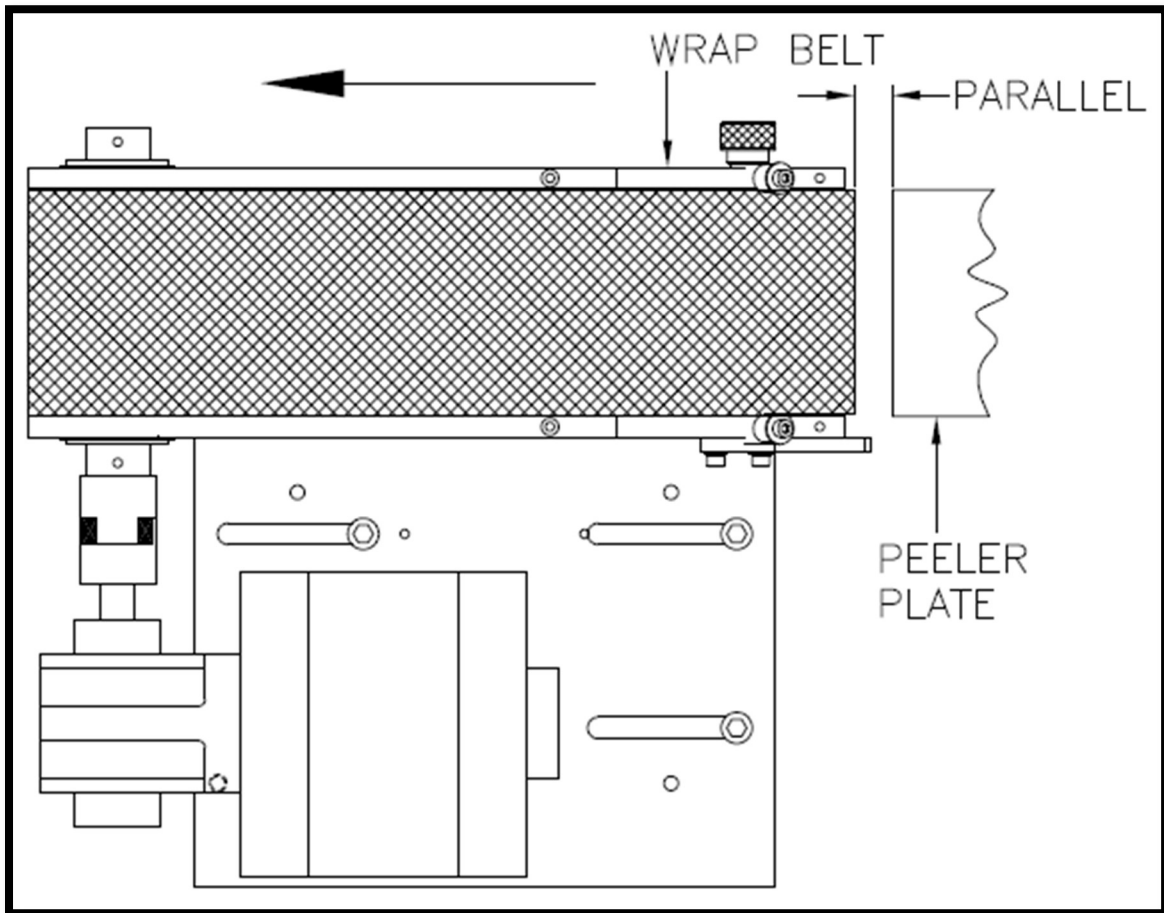

Figure 34 Peeler Plate Alignment
3. Adjust the tilt of the applicator so that the peeler tip is parallel to the wrap belt. (See *Figure 34*). Lock in position.